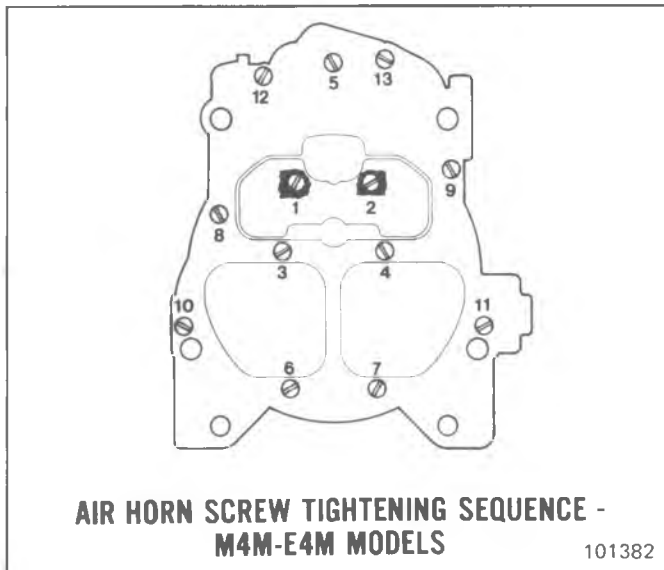

Fig. 6C4-25--Air Horn Screw Tightening Sequence
2. Install eleven air horn attaching screws and lockwashers; and two countersunk screws (Nos. 1 2) located next to the carburetor venturi area. If used, install secondary air baffle deflector under air horn screws **3 and 4. Tighten all screws evenly and securely following air horn screw tightening sequence (Fig. 6C4-25).**
5. Connect upper end of pump rod to pump lever by placing rod in specified hole in lever, noted at disassembly. Align hole in pump lever with hole in air horn casting using J-25322 or equivalent. Using screwdriver, push pump lever roll pin back through casting until end of pin is flush with casting bosses in air horn (Fig. 6C4-26).
6. Install two secondary metering rods into the secondary metering rod hanger (upper end of rods point toward each other). Install secondary metering rod hanger, with rods, onto air valve cam follower. Install retaining screw end tighten securely. Work air valves up and down several times to make sure they are free in all positions (Fig. 6C4-13).